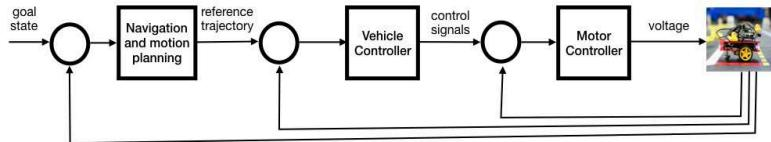

Figure 2.5. An example of nested control loops
The loops are called nested since the output of the outer loop is used as the reference input to the inner loop. An example is shown in Figure 2.5.
**Recommended:** If Figure 2.5 is **VERY** mysterious to you, then you may want to have a quick look in a basic feedback control textbook. For example [\[21\]](#) or [\[22\]](#).
The next inner loop of the nested controller in Figure 2.5 is the **Vehicle Controller**, which takes as input the reference trajectory generated by the **Navigation and Motion Planning** block and the current configuration of the robot, and uses the error between the two to gen-